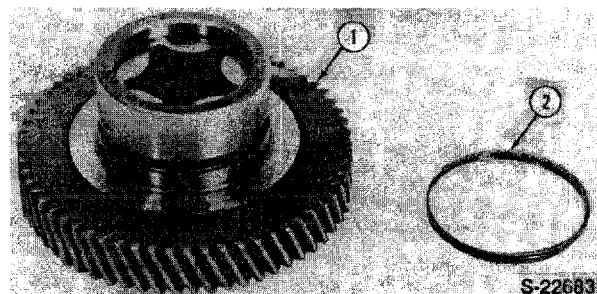

Figure 49
4. Assemble the pump drive gear and retaining spring. Position the assembly on the port block, Figure 49. Turn the crankshaft to align the timing marks between the crankshaft and camshaft gears with the injection pump drive gear and install the pump drive gear.